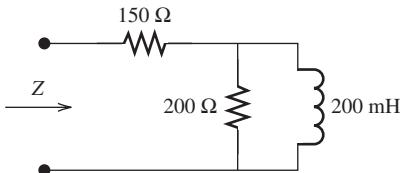

FIGURE P6.20 Circuit for Problem 6.20.
- 6.20 (B)*** What is the total impedance of the circuit in the Figure P6.20, if the frequency of the circuit is $200/\pi$ Hz? Provide the answer to two decimal places.